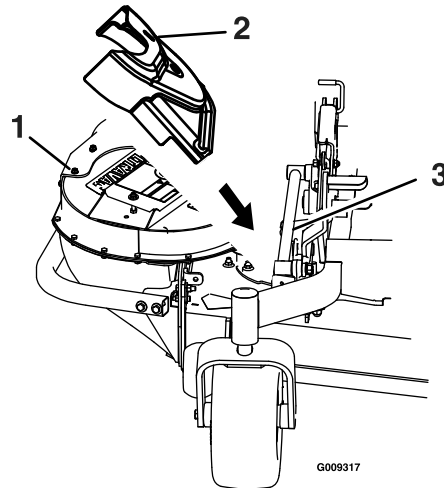

Figure 18
17. Position the belt cover at an angle and slide it under the mower frame (see Figure 18).